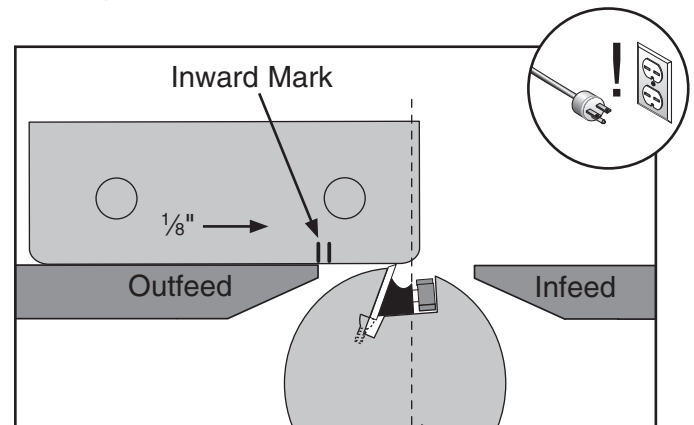

Figure 18. Knife gauge positioned over cutterhead knife.
7. When the outfeed table is correctly set, the knife will just touch the gauge when the knife is at its highest point of rotation (**Figure 18**). When the cutterhead pulley is rotated, the gauge should move $\frac{1}{8}$ " toward the infeed table and the inward mark should be directly over the edge of the outfeed table (**Figure 18**).